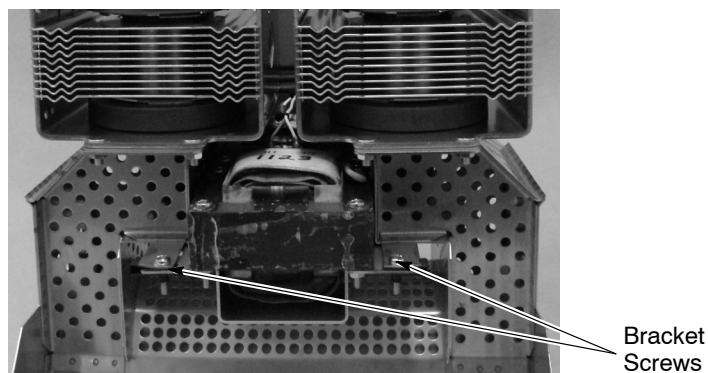

Figure 6-16 Transformer Bracket Screws
4. Remove the two M4 screws shown in Figure 6-16.
15. Slide the transformer bracket all the way into the waveguide assembly. Secure the bracket with the two M4 screws shown in Figure 6-16.